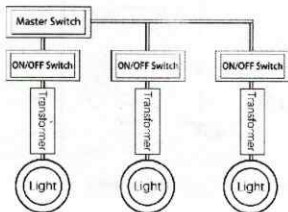

Figure 3
- To achieve synchronization, make sure a master switch is installed. (See Figure 3)